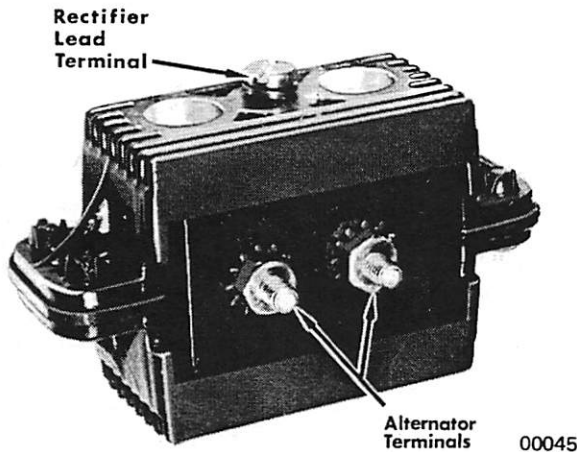

Figure 2. Testing Positive Diodes
- a. Connect small red test lead to either alternating terminal and connect black lead to positive terminal of rectifier. (Figure 2) Meter pointer should move to right of scale No. 3.